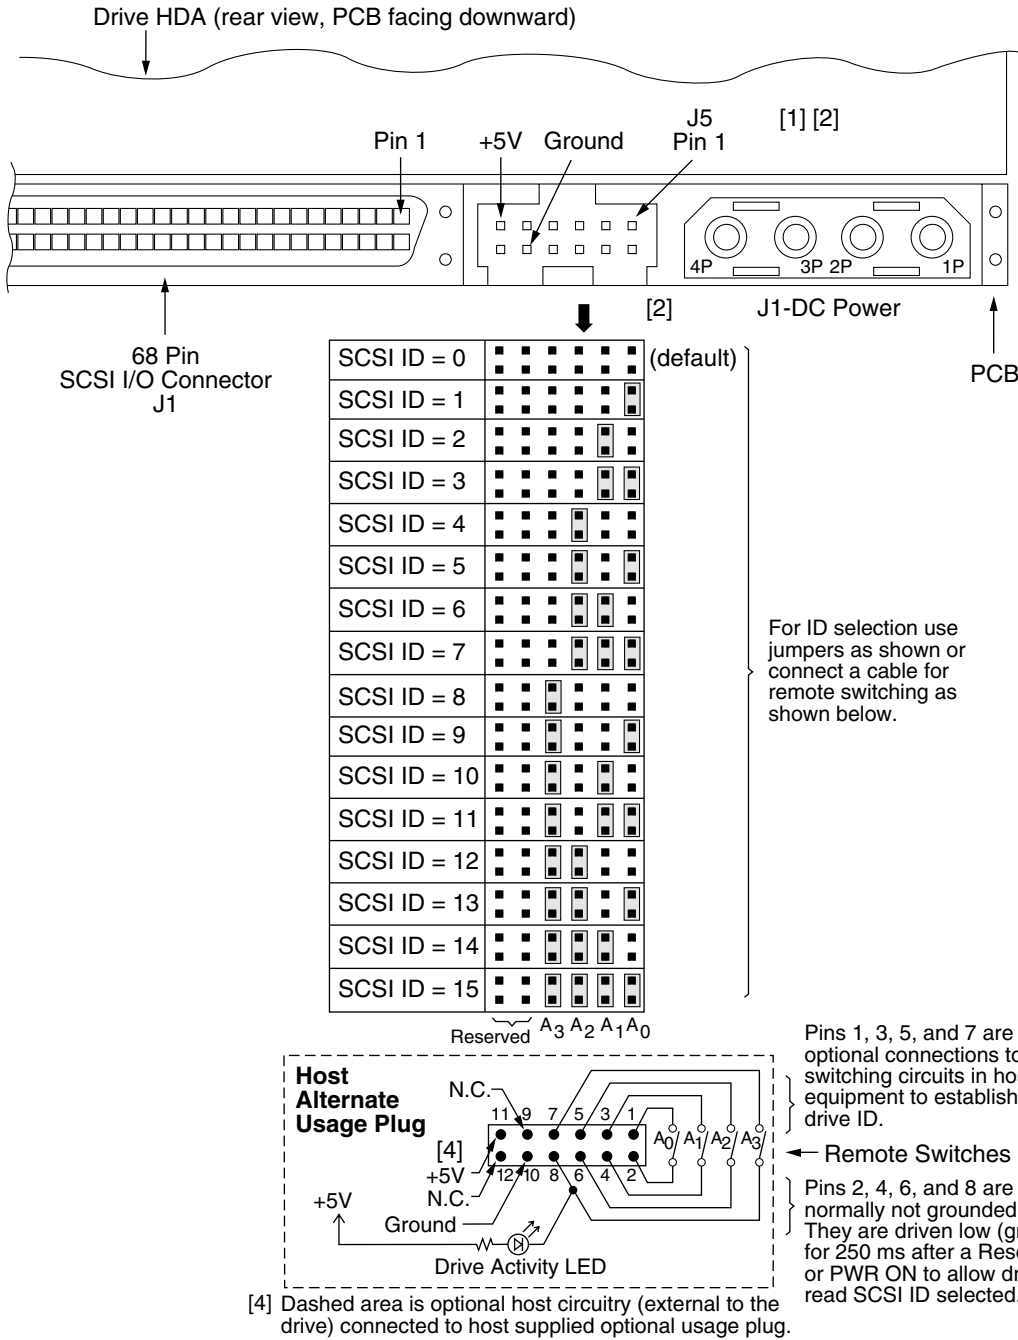
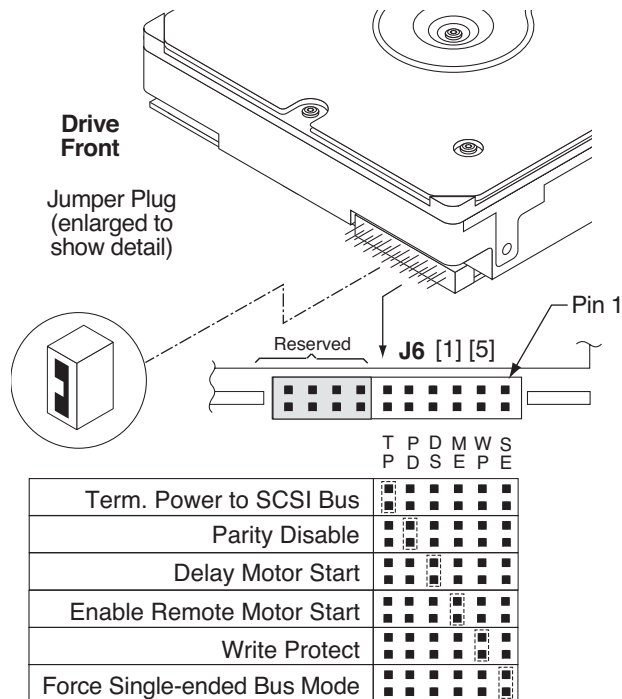

Figure 10. J5 jumper header (on LW models only)
Figure 11. J6 option select header (on LW models only)
The first thing to do when installing a drive is to set the drive SCSI ID and set up certain operating options. This is usually done by installing small shorting jumpers on the J5 connector (see Figure 10), or via the drive to host I/O signals on the LC model. Some users connect cables to J5 and perform the set-up using remote switches.
For option jumper locations and definitions refer to Figures 10 and 11. Drive default mode parameters are not normally needed for installation. Refer to Section 10.3.2 for default mode parameters if they are needed.
Figure 10 shows the drive ID select jumper connector. Figure 11 shows the option select jumper connector for all models. Figure 11 shows the drive's J6 jumper connector. The notes following the figures describe the functions of the various jumper positions on the connectors. Suggested part number for the jumpers used on J6 is Molex 52747-0211 (Seagate part number 77679052). A bag with the two jumper plug types is shipped with the standard OEM drives.
9.1.1 Notes for Figures 10 and 11.
[6] Connect an external Drive Activity LED to J5 pin 8 (see Figure 10) and the drive’s +5V power source, through an appropriately sized current limiting resistor.